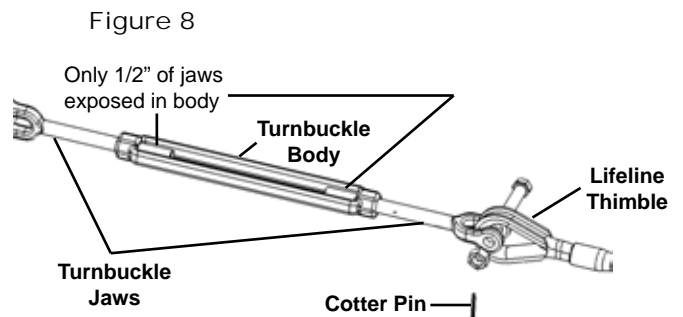

Figure 8
B. Turnbuckle to Lifeline Thimble (see Figure 8)